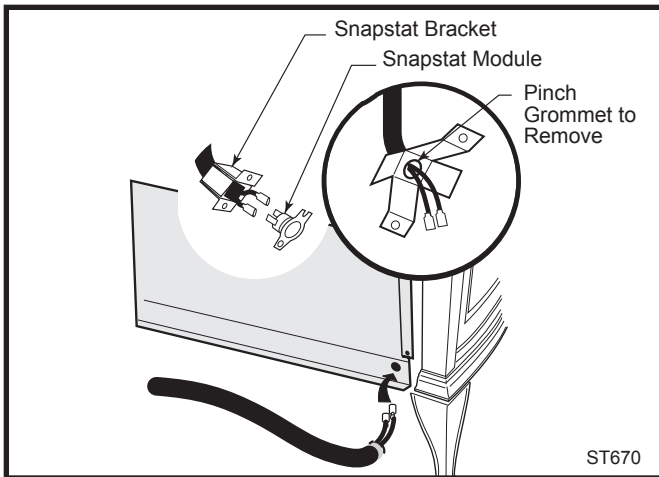

Fig. 17 Remove the snapstat and grommet from the bracket and insert the grommet into the inner shroud.
6. Connect snapstat leads. Disconnect the snapstat module from the leads inside the snapstat bracket. (Fig. 17) Bend open the snapstat bracket. Use needle nose pliers to remove the black plastic grommet from the bracket. Discard the bracket. Insert the grommet and wires into the large hole at the bottom right corner of the inner shroud. Feed the snapstat wire leads through the grommet into the stove interior. Connect the two wires to the two snapstat extension leads attached to the inner shroud or, on some models, in between the inner and outer shroud.